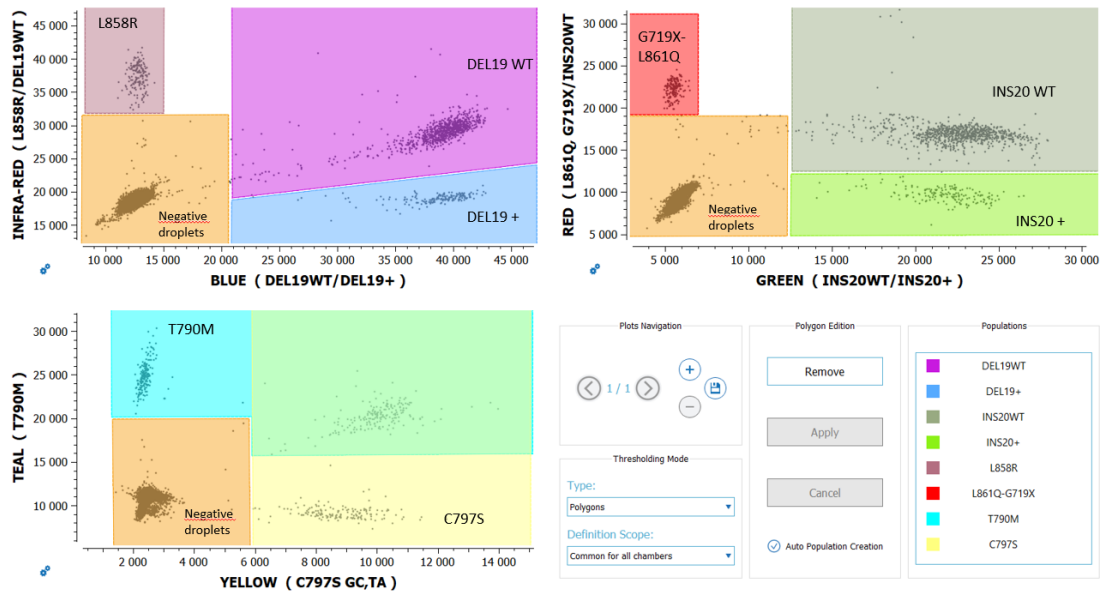

Figure 5: An example illustrating correct placement of the polygons on the positive control in the Crystal Miner software.
- Check or manually adjust the position of the polygons for each target population listed in the “Populations” widget for **the positive control** of the run (refer to the example in Figure 5 below).